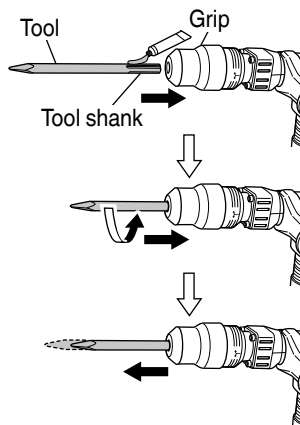

Fig. 7
- (1) Clean, then smear the tool shank with the grease or machine oil.
- (2) To attach the tool (SDS max shank), insert it into the hole until it contacts the innermost end of the hole as illustrated in Fig. 7.
As shown in Fig. 7, pull grip, and pull out the tool.